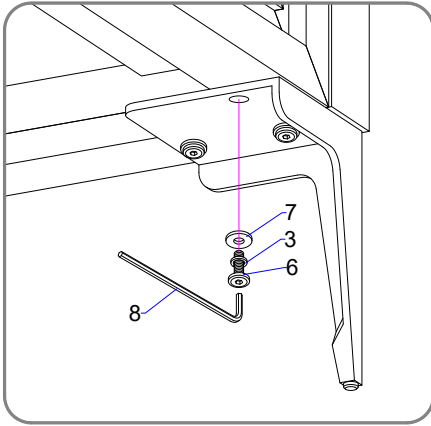

FIGURE 03
Fixed the Metal legs (F) to the Side rails (B) by using Allen bolts (6), Lock washers (3) and Flat washers (7). See FIGURE 03.